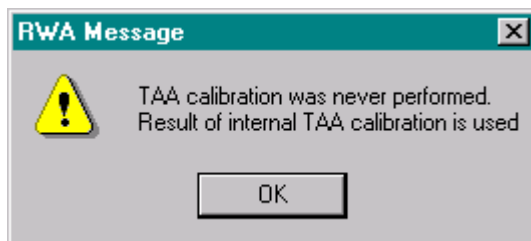

Figure 1: RWA Message, TAA Calibration Never Done
- The message presented on Figure 1 will be displayed, if the TAA is not calibrated.